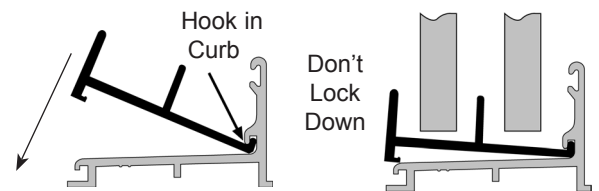
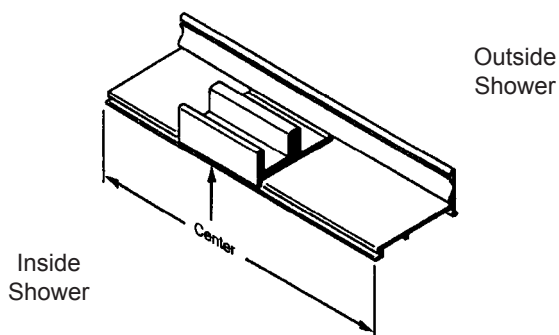

Figure 9B
Figure 10
- C. Slide both Door Panels (#5 and #6) to one side. Peel the paper backing off the two-way tape on the bottom of the Guide (#4). **Without letting the adhesive tape touch the Curb (#2) OR accidentally pressing down or locking the Guide (#4) into place**, carefully insert the front edge of the Guide (#4) into the groove in the Curb (#2) and slide the Guide (#4) under the two Door Panels (#5 and #6) as shown in Figure 9B. Center the Guide (#4) on the pencil mark you made (See Figure 10).